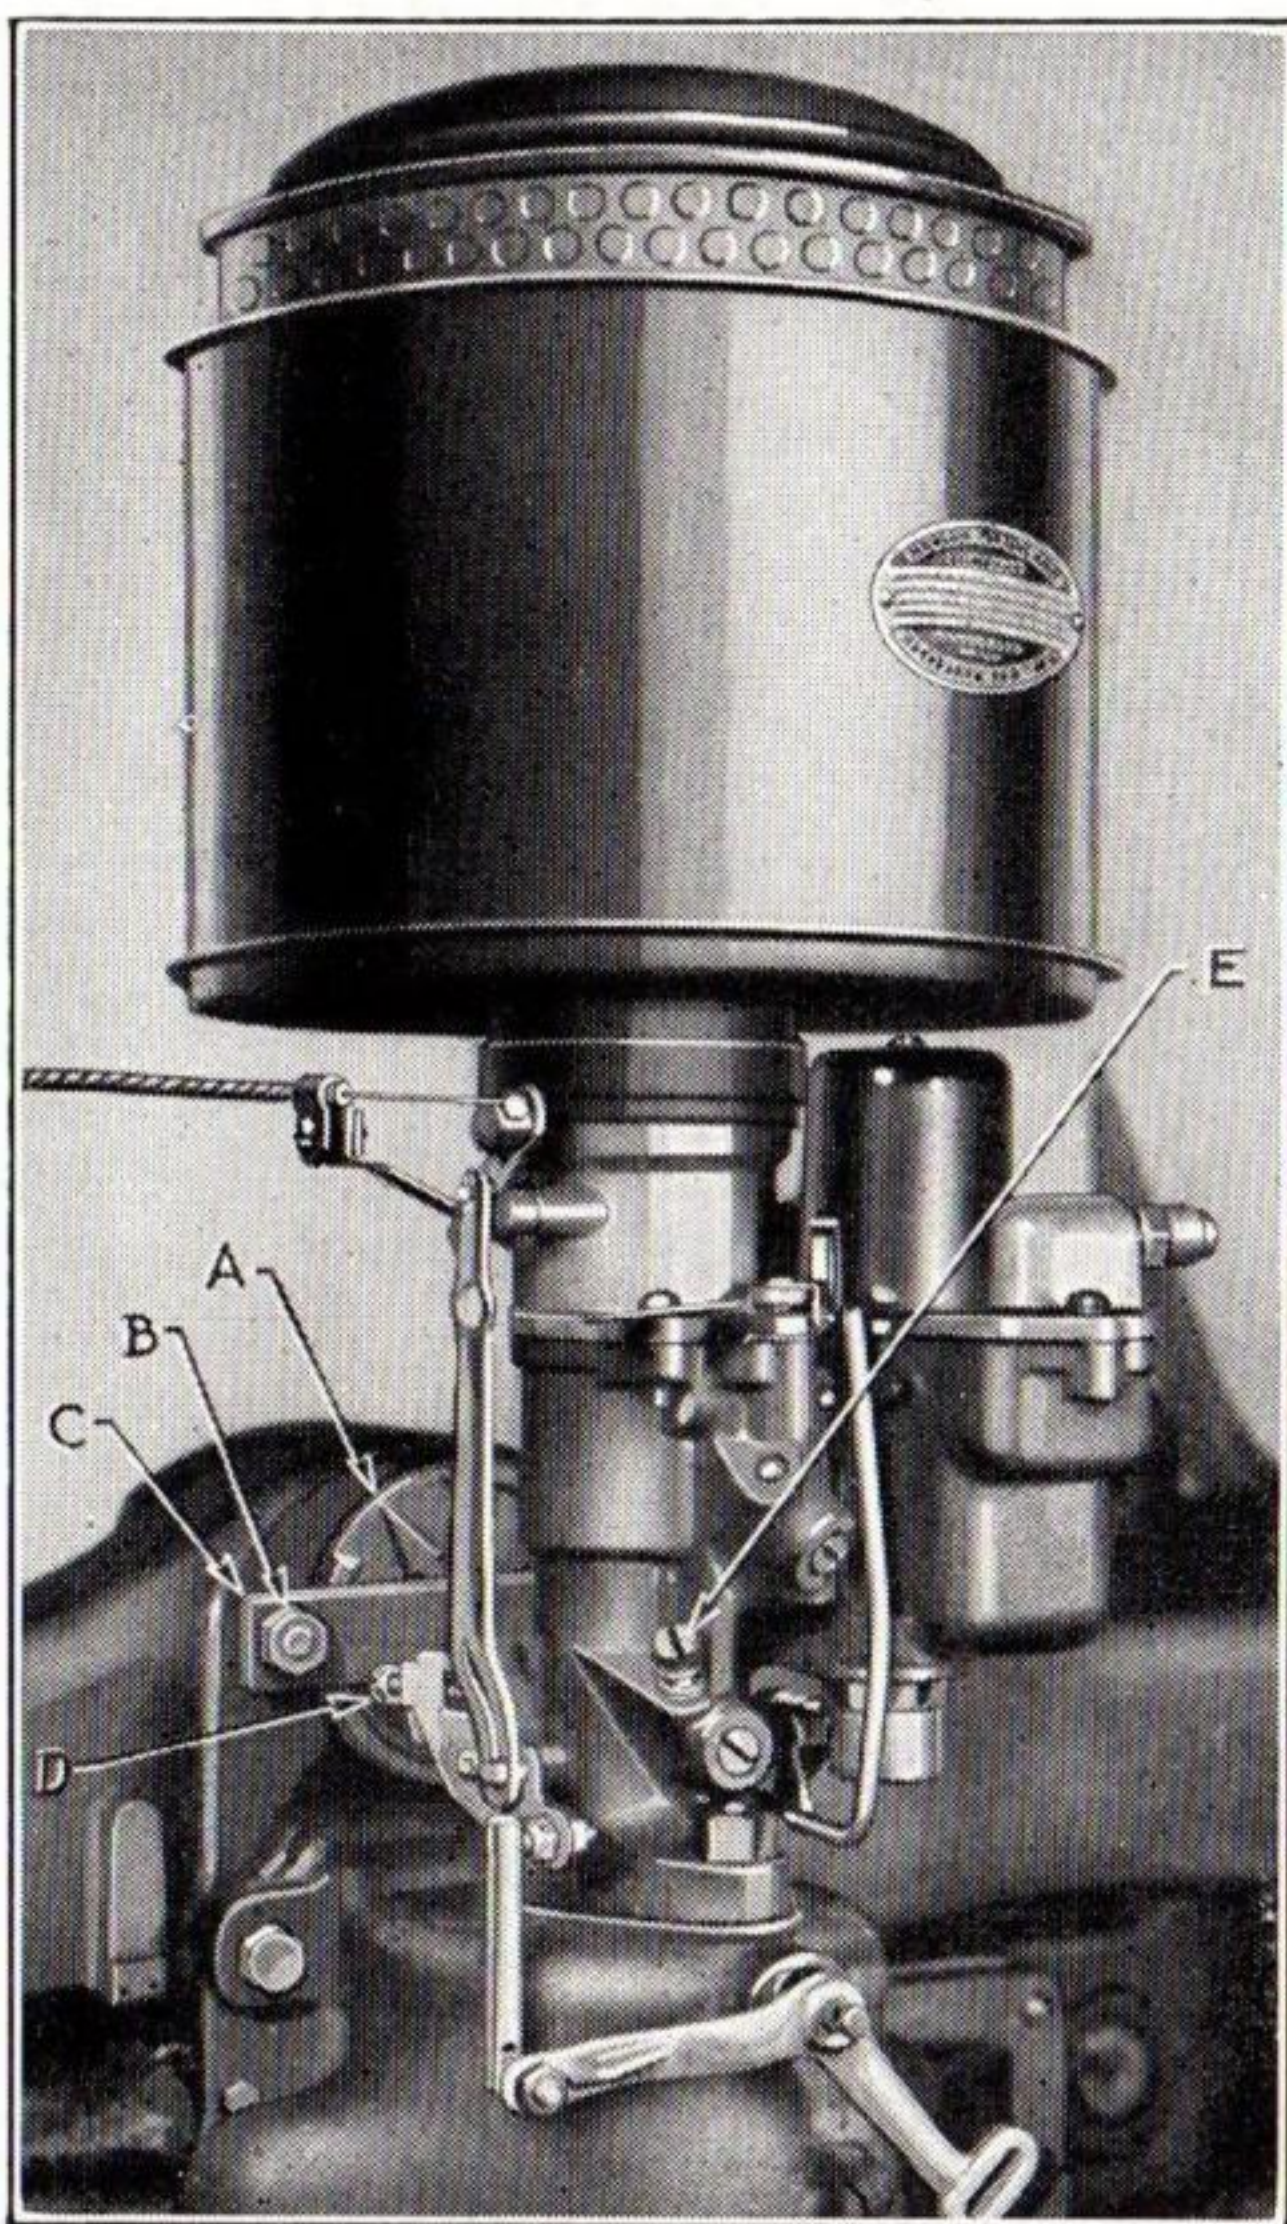

Figure 7
The manifold heat control valve (A), Figure 7, is adjustable for winter and summer driving. For winter driving, the pointer on the valve should be directed to the letter "W" or to the rear of the manifold. For summer driving, except in extremely hot territories, the pointer should be directed straight upward. For extremely hot territories, the pointer should be directed to the letter "S" or to the front of the manifold.
To adjust heat control valve, loosen two nuts (B), Figure 7, sufficiently to relieve pressure of bar (C) against valve (A). Turn valve to desired position. Tighten two nuts (B), checking carefully to prevent exhaust leak at valve gasket.